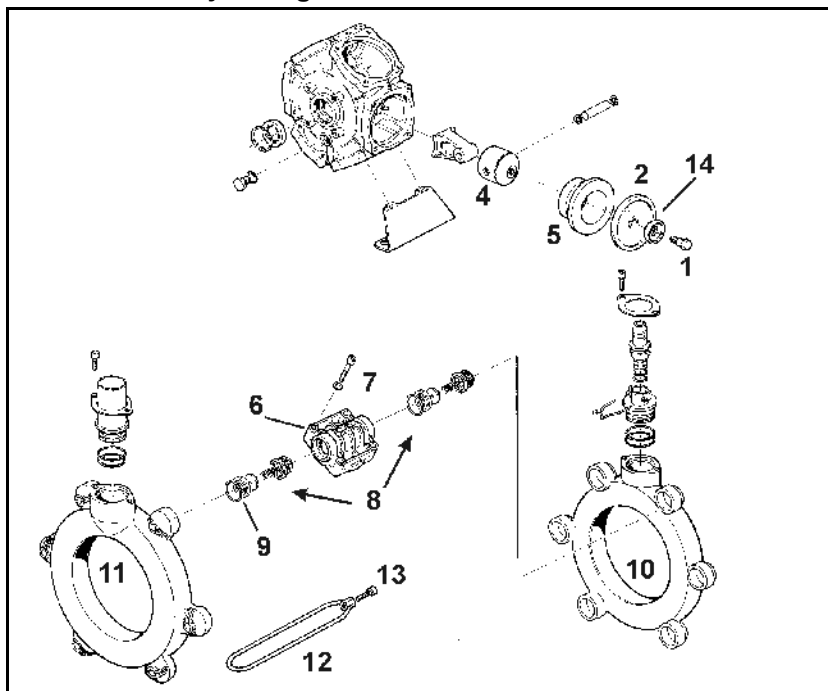

Fig. 150
- Fasten the piston diaphragm (Fig. 150/2) in such a way with the retaining disc (Fig. 150/3) and bolt (Fig. 150/1) to the piston (Fig. 150/4), so that the edge (Fig. 150/14) faces the cylinder head side (Fig. 150/6).
- Tighten bolts (Fig. 150/13) diagonally with the torque indicated. Bolts tightened inaccurately will cause tensioning and thereby leakage.
1. Loosen the bolt (Fig. 150/1) and the piston diaphragm (Fig. 150/2) together with the retaining disc (Fig. 150/3) of the piston (Fig. 150/4).
3. Remove the cylinder (Fig. 150/5) from the pump housing.
6. Move the cylinder (Fig. 150/5) again into the pump housing.
7. Fit the piston diaphragm (Fig. 150/2).
8. Fit cylinder head (Fig. 150/6) to pump housing and tighten bolts (Fig. 150/7) cross wise and equally.
9. Mount the valve groups (Fig. 150/8) after checking and cleaning.
10. Fit new O-rings (Fig. 150/9).
11. Re-install suction (Fig. 150/10) and pressure channel (Fig. 150/11) to the pump housing and refit the tensioning clamp (Fig. 150/12).
12. Tighten the bolts (Fig. 150/13) always diagonally with a torque of **11 Nm**.